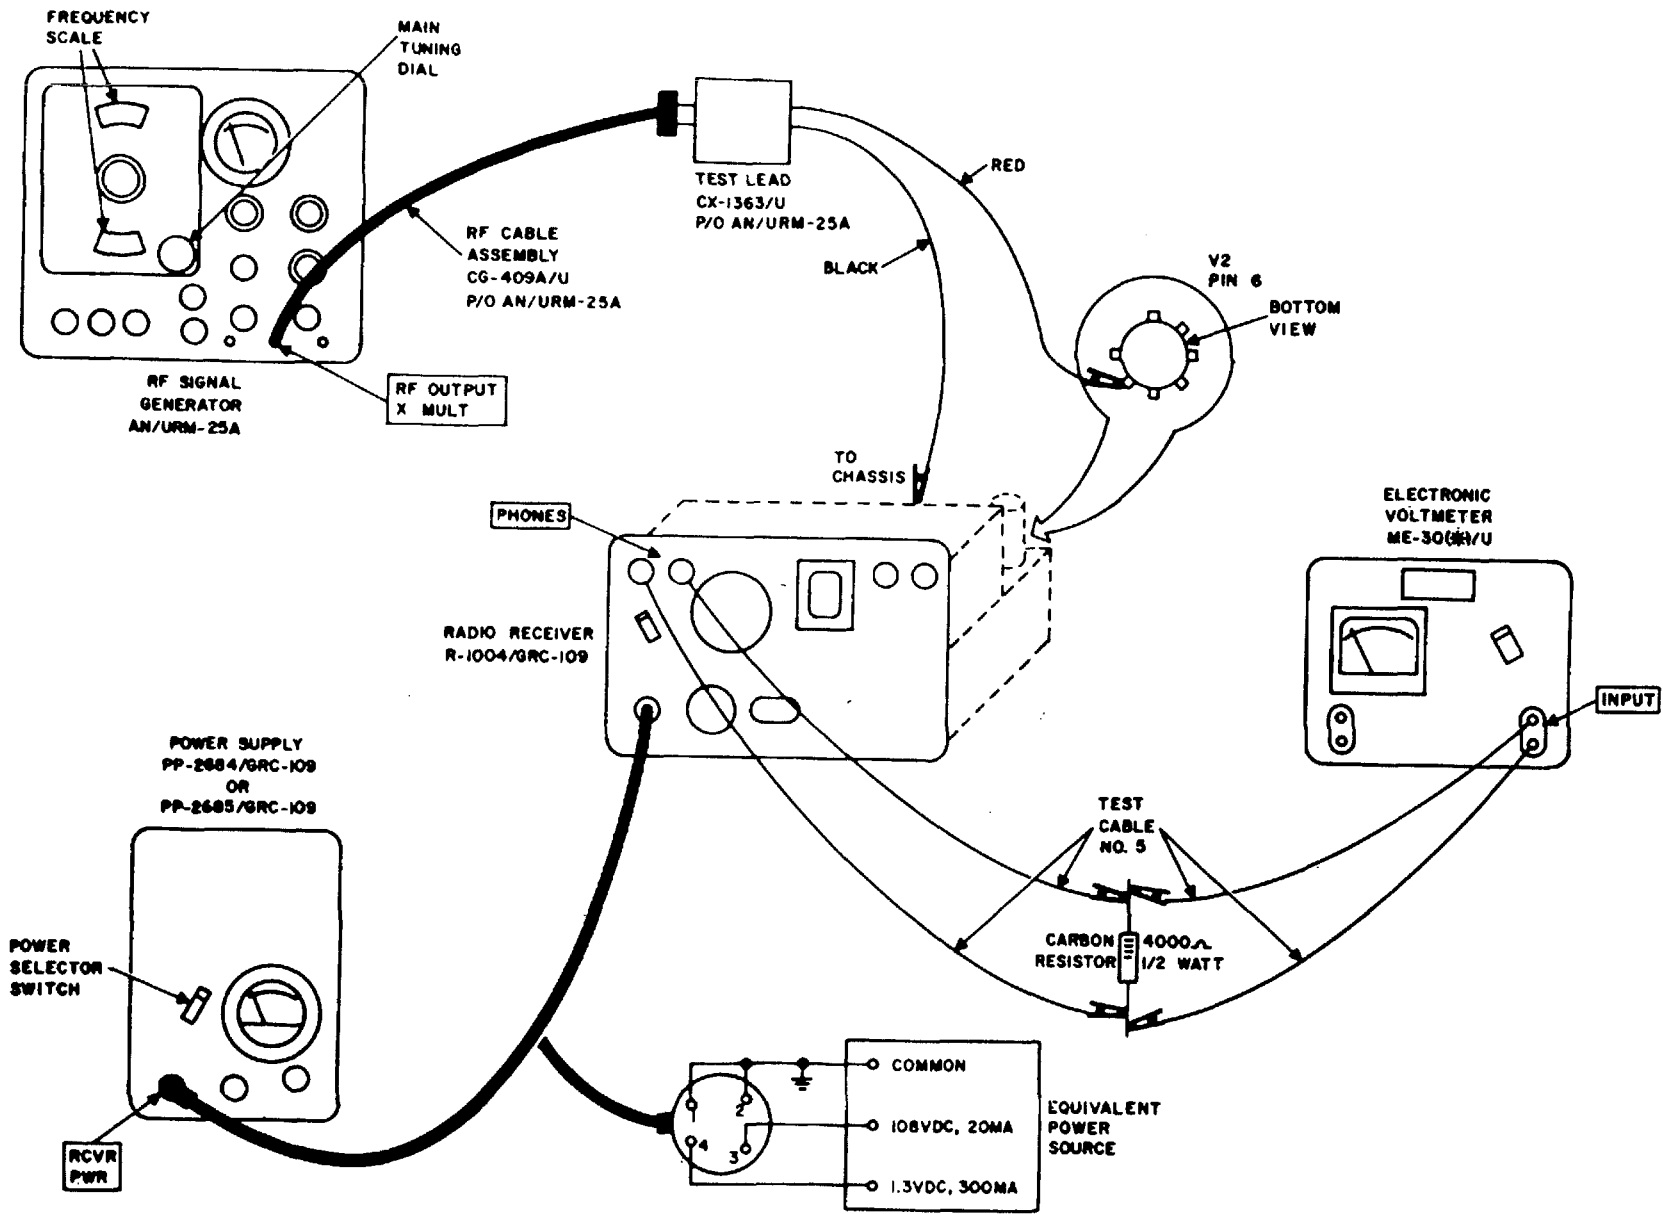

Figure 56. If. Bandwidth test.
- Test cable No. 5 (4)
b. Test Connections and Conditions. Connect the equipment as shown in figure 56. Turn on all equipment and allow 15 minutes to warm up before proceeding.